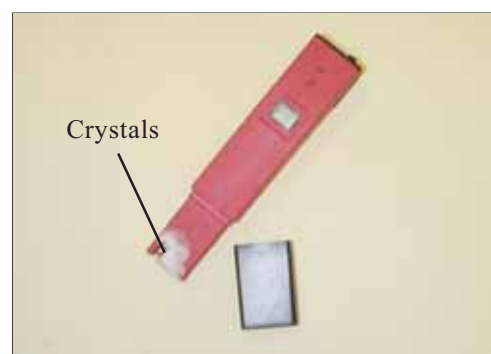

Figure 3c.
- Crystals may appear around the cap (**Figure 3c**). This condition is normal. The crystals will dissolve when rinsed with water.